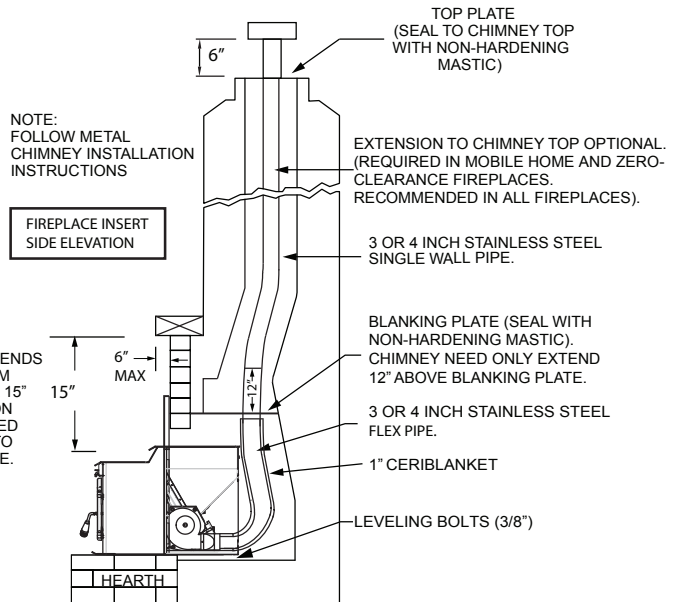

FIGURE 16
B. WHEN VENT PIPE EXTENDS TO CHIMNEY TOP (Refer to Figures 16 and 17)
C. WHEN VENT PIPE EXTENDS THROUGH CHIMNEY BLANKING PLATE (Masonry Fireplaces Only) (Refer to Figures 16 and 17)